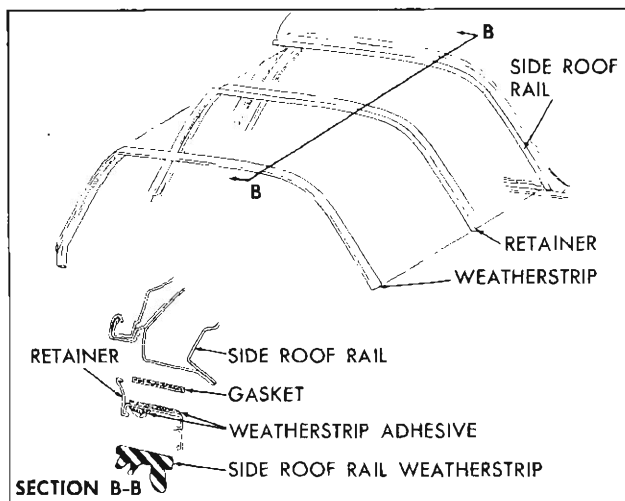

Fig. 61—Side Roof Rail Weatherstrip Assembly—47 Styles
2. Apply a continuous bead (approximately $\frac{3}{16}$ " diameter) of weatherstrip adhesive along entire outboard surface of side roof rail weatherstrip retainer (See Section "B-B" in Figure 61).